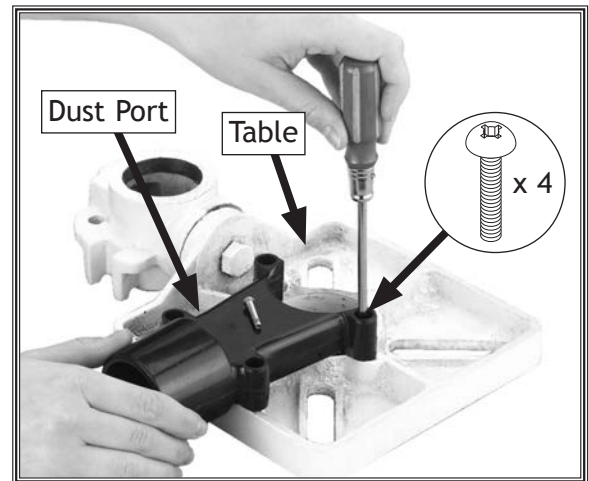

Figure 11. Attaching dust port to table.
3. Position (2) dust port halves together, then attach dust port to bottom of table with (4) M4-.7 x 22 Phillips head screws (see **Figure 11**).